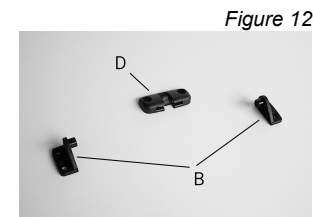

Figure 12
- Pencil in an "X" over the centre line of the window frame (fig. 12).